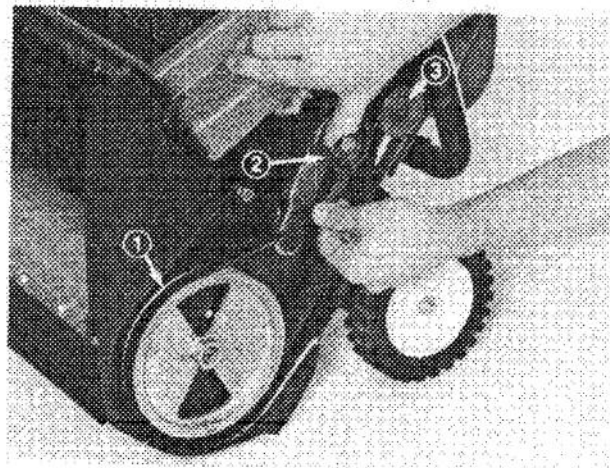

Figure 16
3. Move idler pulley up and pull drive belt out (Fig. 16) so it is free; then allow spring loaded idler to release, but do not let idler pulley snap.
4. Remove drive belt from impeller pulley and engine pulley (Fig. 16).